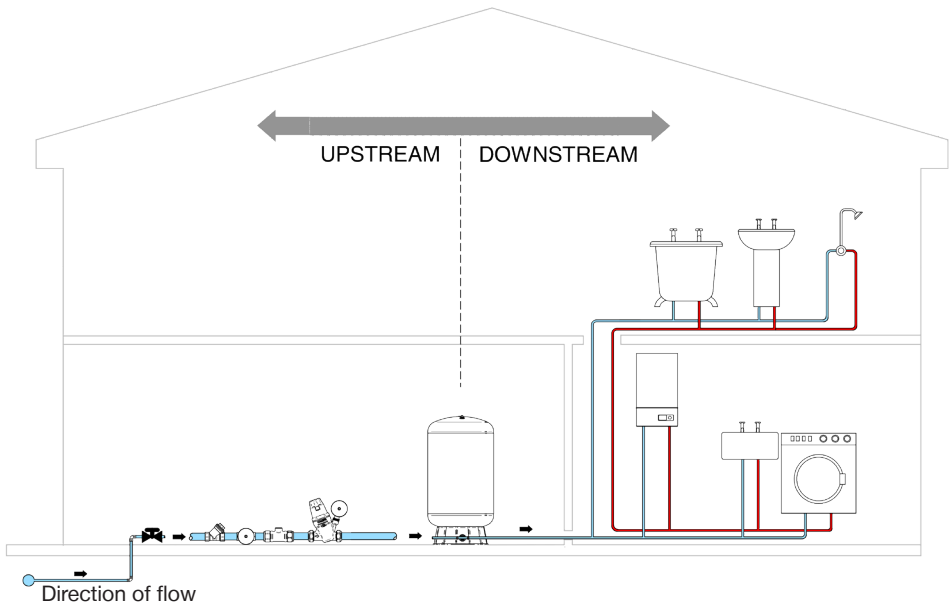

Fig. 4 System designation
- 3.16 **Direction of flow:** See Fig. 4 to identify the suction and discharge connections.
The term 'Downstream' refers to the system configuration from the outlet tapping on the Mainsboost vessel, along the distribution header (if configured in this way) and into the distribution pipework and outlets. This includes hot and cold services where both are present (see Fig. 4).